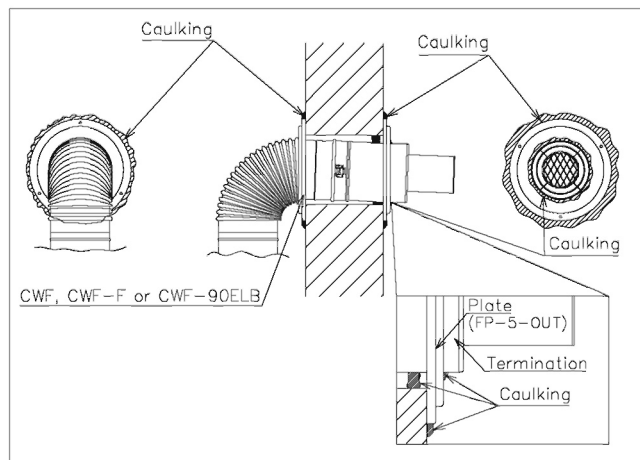

Fig.2 Horizontal extended installation
2. Seal between the plate of CWF, CWF-F or CWF-90ELB and the inner wall. Seal between air intake of CVT-S (termination) and the exterior wall. (See Fig 2)
3. Attach plate (FP-5-OUT) on the outer wall with 3 appropriate screws. Make the label "UP" on the plate (FP-5-OUT) upward. Seal between plate (FP-5-OUT) and outer wall. (See Fig. 2)